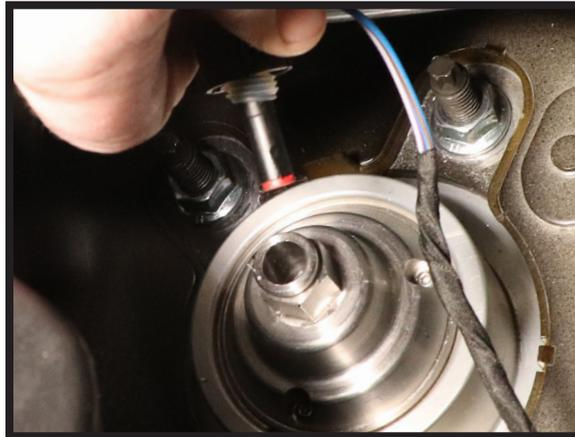

FIGURE 9
3. INSTALL THE ELECTRICAL CONNECTION. (FIGURE 9)